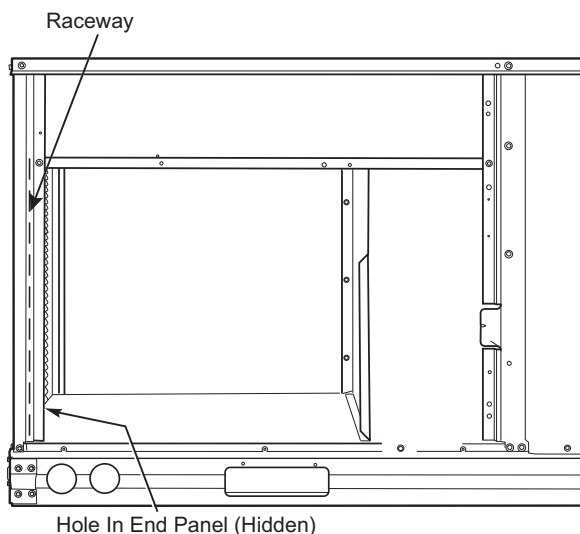

Fig. 43 — Field Control Wiring Raceway
All low-voltage wiring should be routed through the provided raceway (see Fig. 43) built into the corner post of the unit or secured to the unit control box with the electrical conduit in order to provide UL-required clearance between high-voltage and low-voltage wiring.
Pass the thermostat control wires through the hole provided in the corner post; then feed the wires through the raceway built into the corner post to the control box. Pull the wires over to the terminal strip on the lower-left corner of the SystemVu MMB. See Fig. 43.
2. Feed wires through the raceway built into the corner post (see Fig. 43) to the 24v barrier located on the left side of the control box. The raceway provides the UL-required clearance between high-voltage and low-voltage wiring.